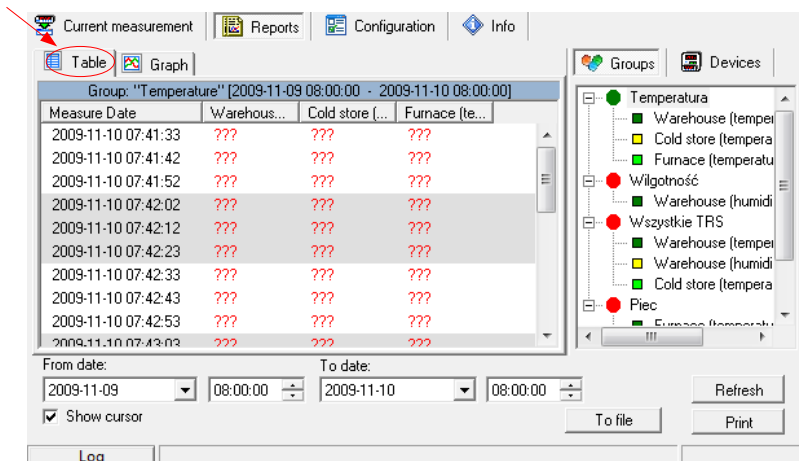

Figure. 5.1. Reports - Table tab
The **Table** tab (Figure. 5.1) is used for printing information concerning recorded measurements (e.g. temperature, humidity) in the form of a table for one of the groups or a particular measurement device selected by the user (for more information on groups see 7 section, at page 35). This tab also enables the export of data to text format files. The exported file is formatted in a way allowing the transfer of data to a calculation sheet.
- click appropriate tab **Groups** or **Devices** (**Figure. 5.1**),